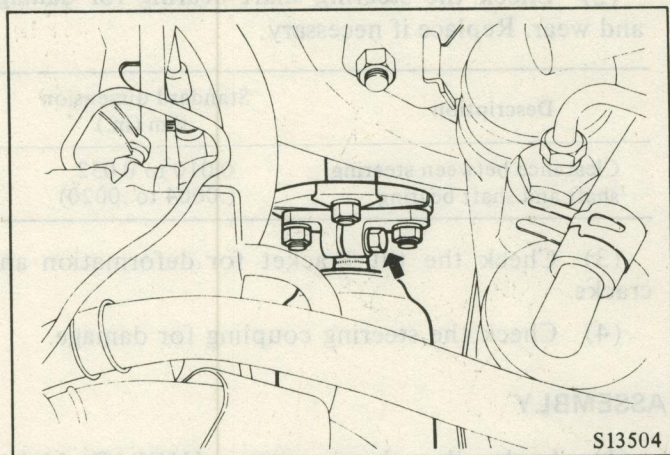

Fig. 5 Removing the Clamp Bolt
(1) Remove air cleaner. Remove bolt tightening the clamp which couples the steering shaft and the gear box side mainshaft. (Fig. 5)